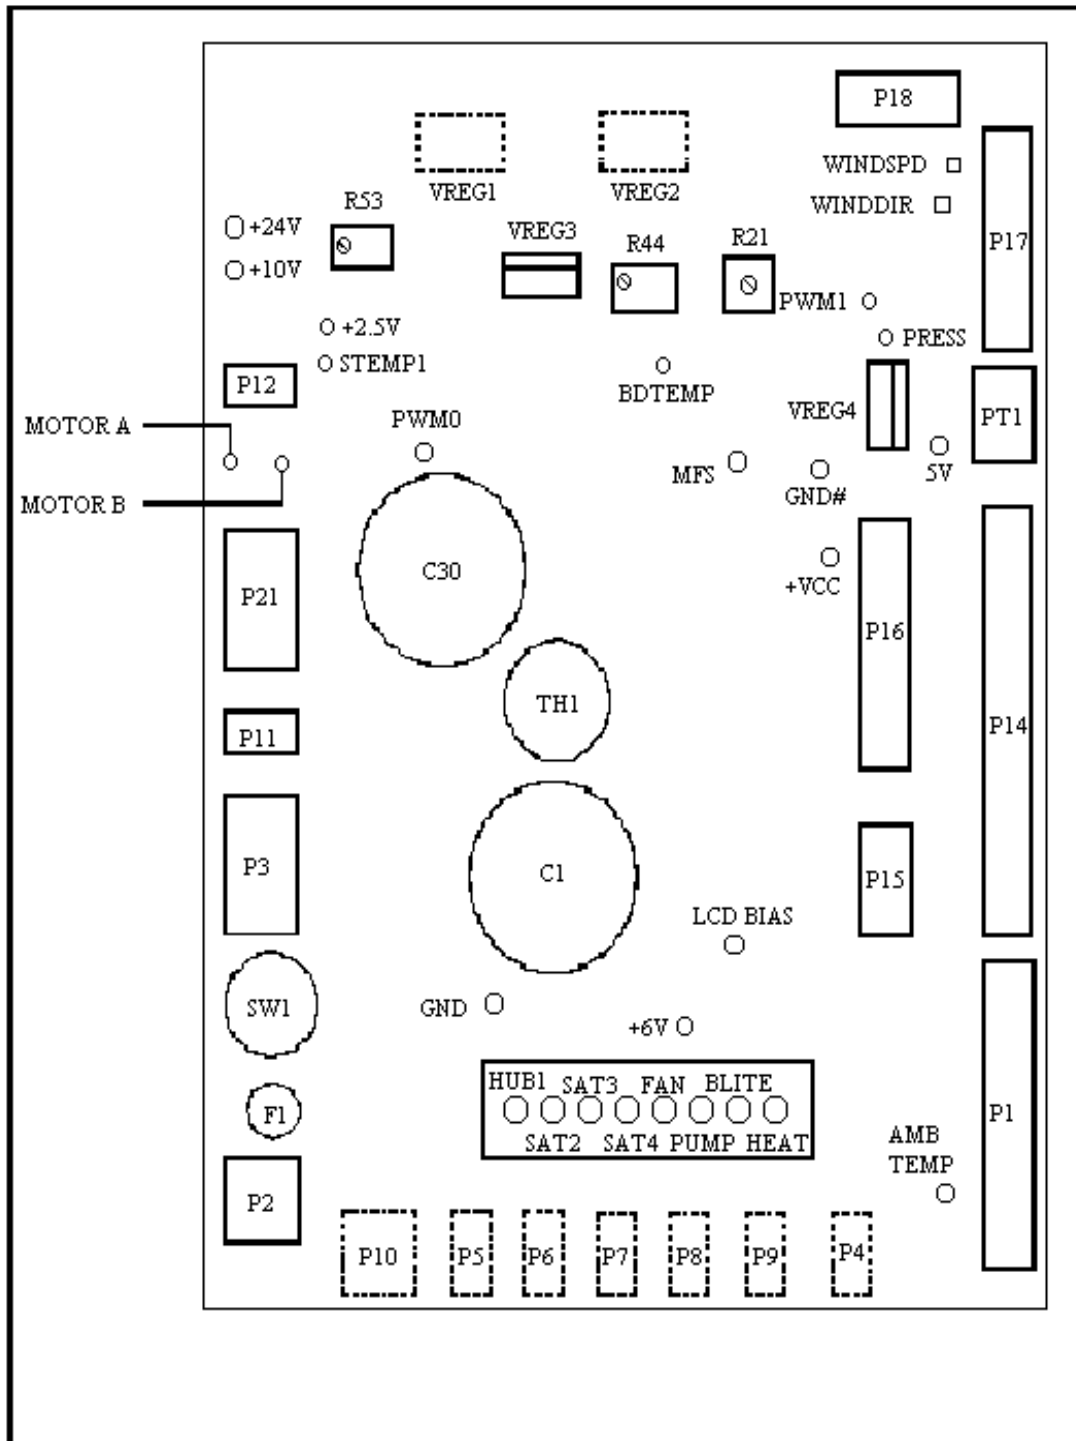

Figure AJ.2.1.1
4. Locate the red 2.5 V, 6 V, 10 V and black GND test points and the adjustable pots labeled R21, R44 and R53 on the I board (refer to Figure AJ.2.1.1 for locations).
2. Locate and unplug the connector cable labeled P18 at the back of the I board by gently pulling the thin brown plastic strap on top of the plug forward (refer to Figure AJ.2.1.1 for location).